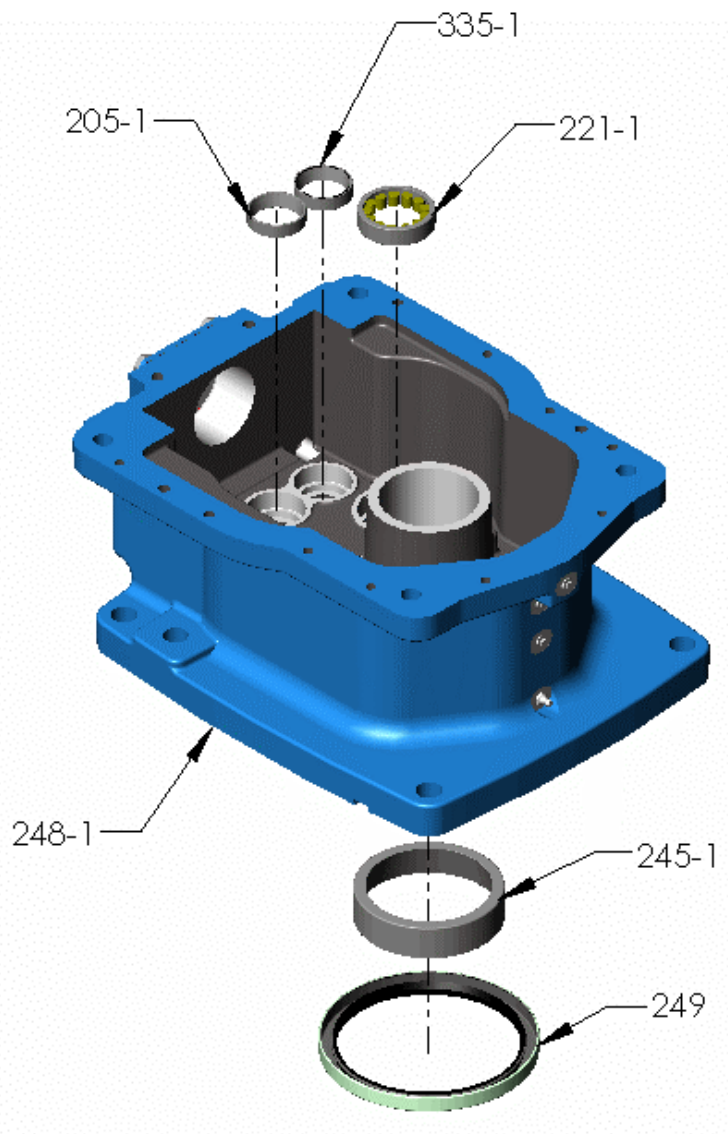

Figure 15 – Bottom Case
- (4) On assembly, lubricate all fasteners with grease, oil or an anti-seize material. Lubricate threads and contact surfaces of bolt heads and nuts. If fasteners cannot be lubricated, increase torque values given in Table 1 by a factor of 1.33.
- (5) Bearing cones are installed with interference fits, heat cones and press on to the shaft. Heat bearings in oven or oil bath:
- (6) Bearing cups are installed with interference fits, put the cups in dry ice to lower temperature and press into housing.
- (7) Install lip seals with the seal lip towards the bearing. Coat the seal lip with bearing grease before installing the shaft.
- B. At bottom case **[248-1]**, install following items (refer Figure 15):